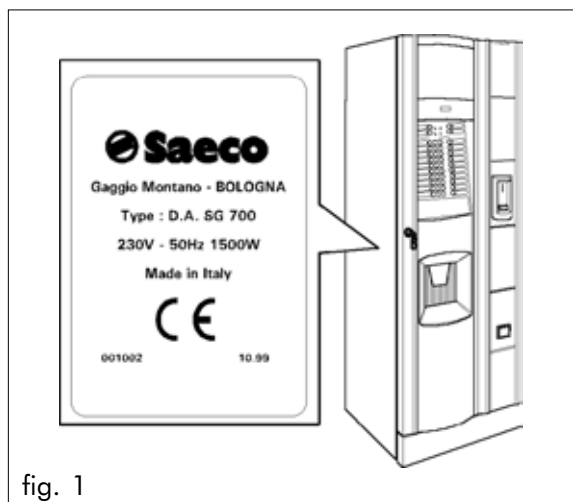

fig. 1
- The data registered on the serial number label (fig. 1);